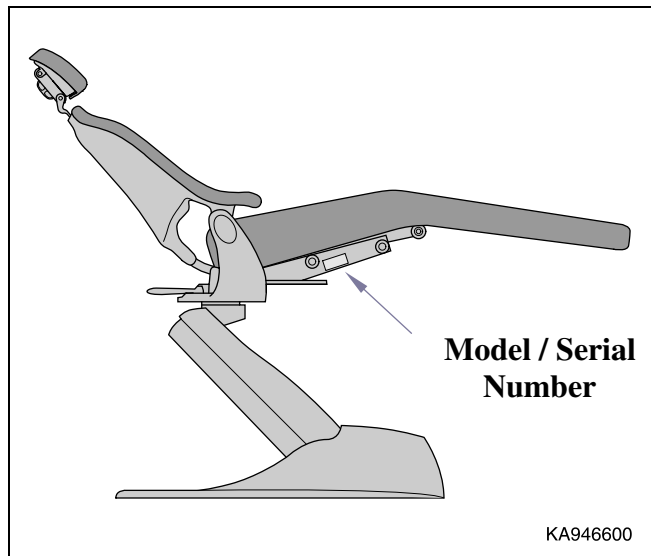

Figure 1-6. Model Number / Serial Number Location
- (1) Refer to Figure 1-6 to determine location of model number and serial number of chair and record this data.